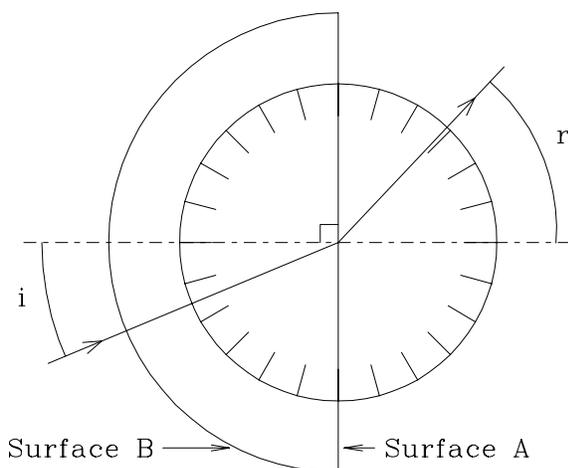

Figure 4.2: Refraction from a denser medium
- To test your hypothesis, place the light source on the opposite side of the prism, as shown in Figure 4.2. Aim the beam of light so that it passes through the curved prism face (surface B).